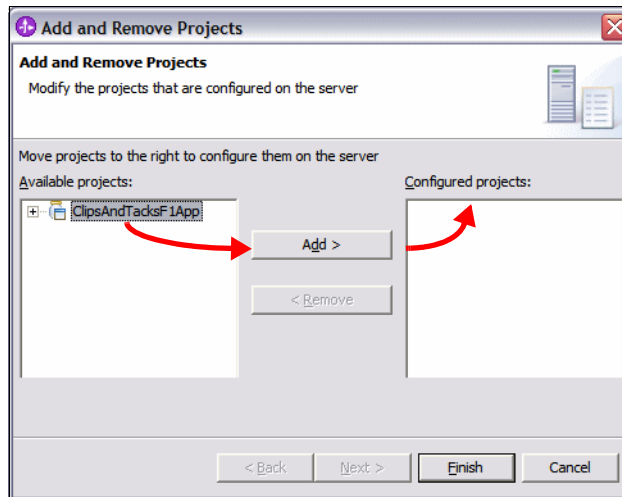

Figure 10-31 Add project to server for testing
- ▶ Select the `ClipsAndTacksF1App` project and click *Add >* (Figure 10-31). Click *Finish* and the application is deployed. Watch the progress indicator in the bottom right of the Integration Developer window.